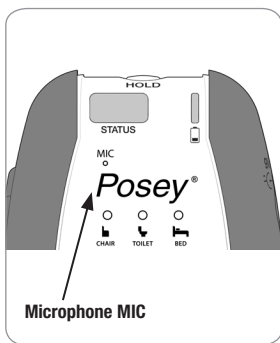

Fig. 9
5. In a normal voice, speak into the microphone aperture labeled MIC on front, top left corner of fall monitor (Fig. 9).